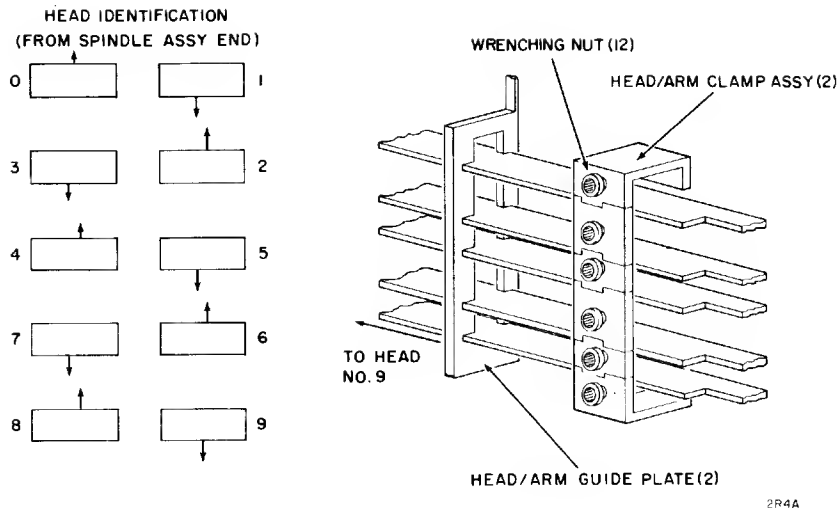

Figure 6-4. Head/Arm Assembly Adjustment
3. Determine the faulty head. Refer to Figure 6-4 for physical location of the head. Remove the two screws that hold the head diode board bracket.
5. Loosen the wrenching nuts immediately above and below the faulty head/arm (Figure 6-4).
6. Remove the 12 wrenching nuts (Figure 6-4) from the head/arm clamp.
11. Referring to Figure 6-4, thread the connector plug for a head/arm assembly through the head/arm guide plate and clamp. Slide the head/arm into the slots in the guide plate and back to the head/arm locating block. Repeat this procedure for each of the nine remaining head/arm assemblies. Install the 12 wrenching nuts at the head/arm clamp.
To read any head other than head 0 or head 1, the selected head cable plug connection must be exchanged with either head 0 or head 1 at the head diode card. Connect heads 3, 4, 7, and 8 (Figure 6-4) at the head 0 head diode card connector. All other heads are exchanged with head 1.